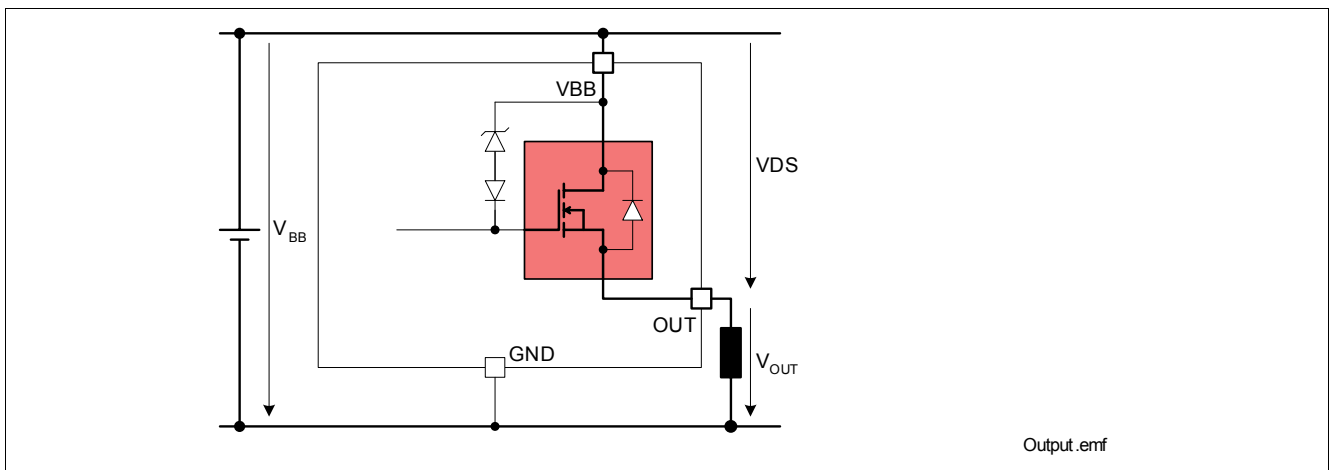

**Figure 5** Input Switch Matrix
**Figure 5** shows the complete input switch matrix.